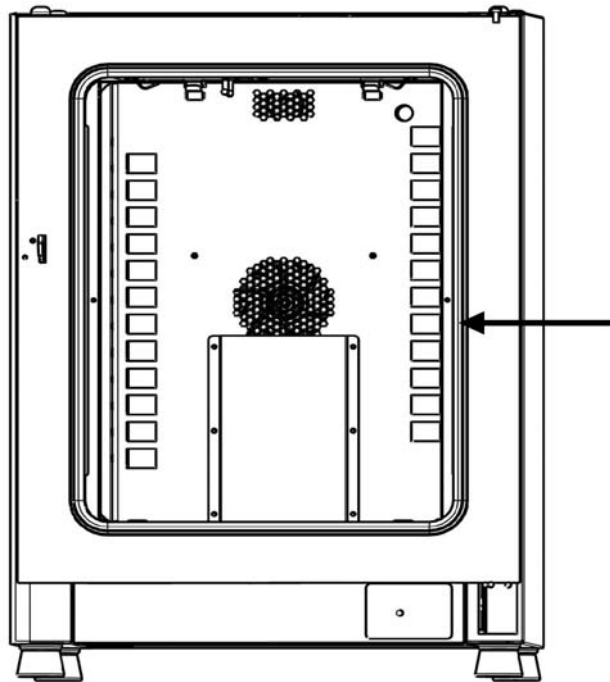

Figure 10-1 Door seal replacement (example showing OMH Series oven)
2. Starting on the hinge side of the door, position the seam of the new seal at the location indicated by the arrow in figure 10-1 above.